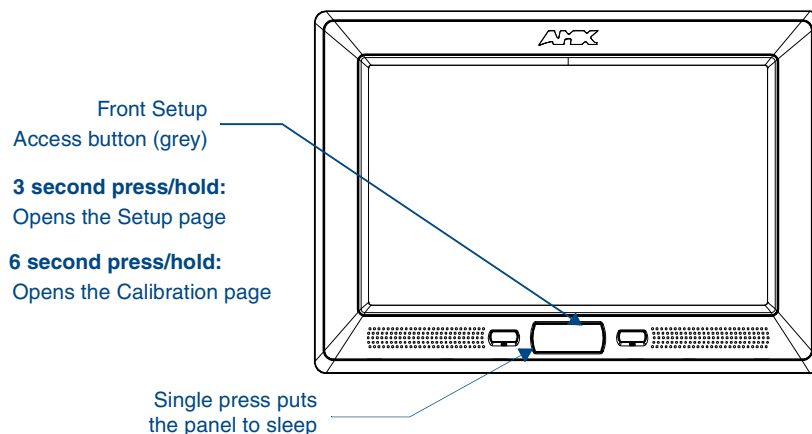
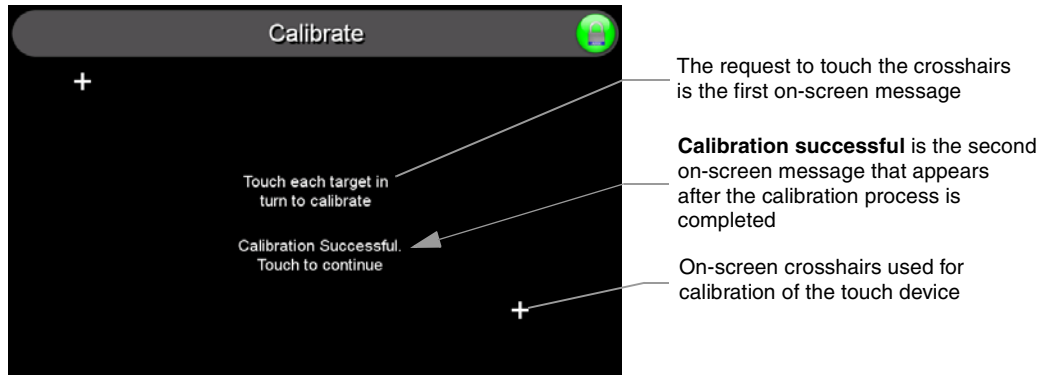

FIG. 30 Location of Front Setup Access button
FIG. 31 Touch Panel Calibration Screens
1. Press and hold the grey Front Setup Access button (FIG. 30) for **6 seconds** to pass-over the Setup page and access the Calibration setup page (FIG. 31).
2. Press the crosshairs (on the Calibration page) to set the calibration points on the LCD (FIG. 31).